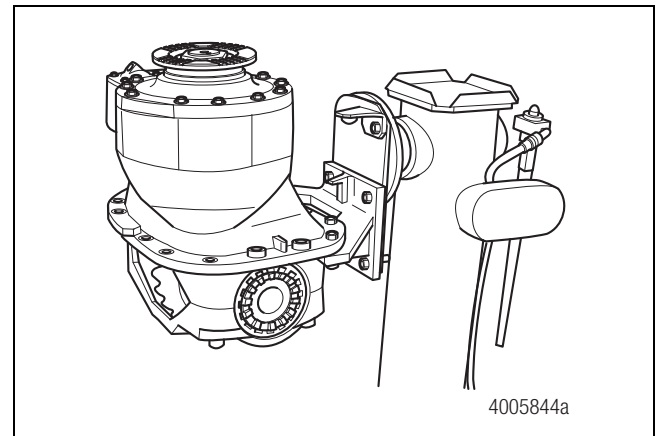

Figure 3.24
15. Install the carrier into a suitable carrier repair stand. Figure 3.24.